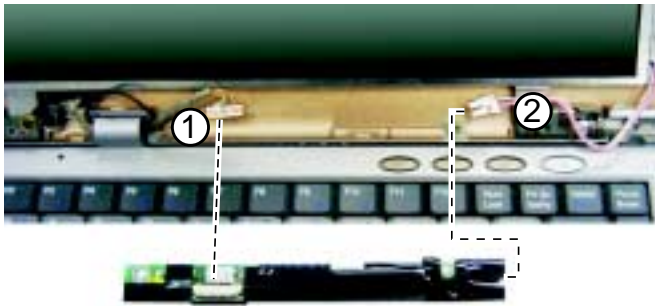

figure 3-27
4. Lift the LCD inverter and disconnect the inverter wire cable and the LCD to inverter wire cable (figure 3-27).